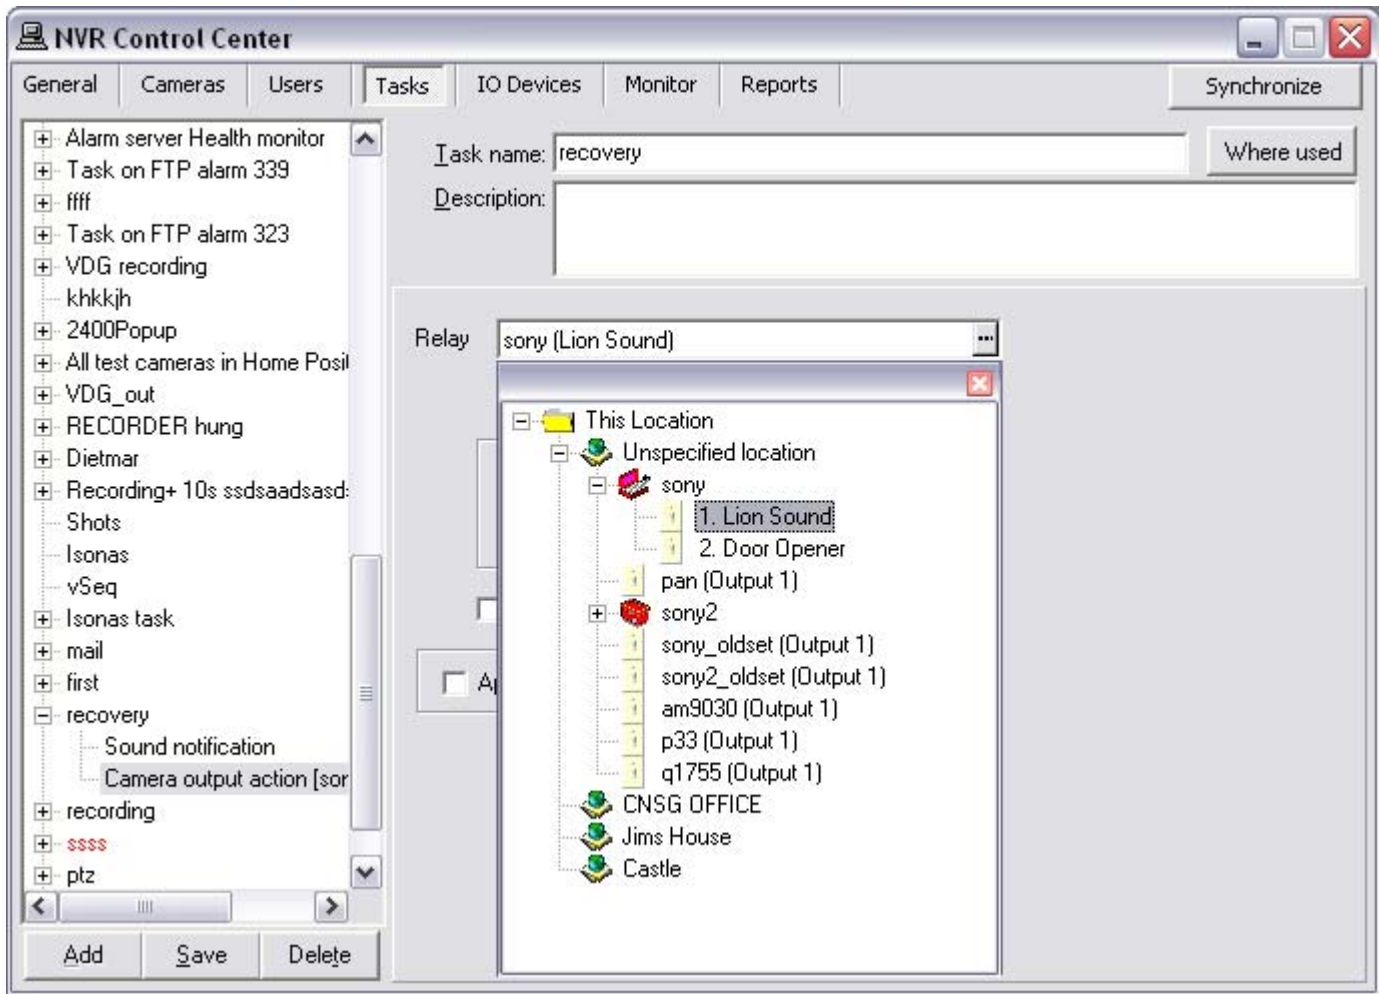

Fig 83. NVR Control Center — Tasks
1. Select a relay to trigger (*external device connected to the camera output port*) from the **Relay** drop-down list. (Fig 83).